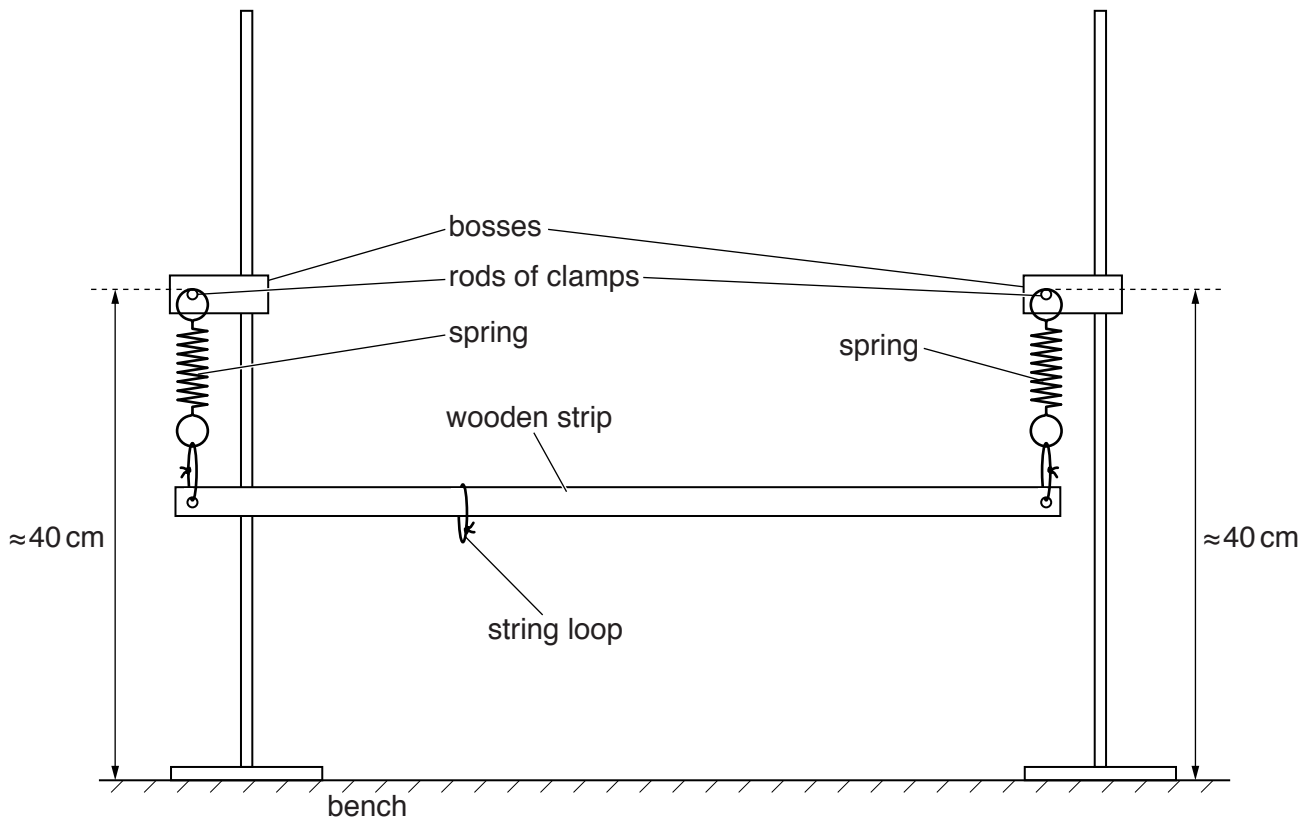

Fig. 1.2
- 4 The apparatus should be assembled as shown in Fig. 1.2. The rods of the clamps should be 40 cm above the bench. The remaining apparatus should be laid out on the bench.